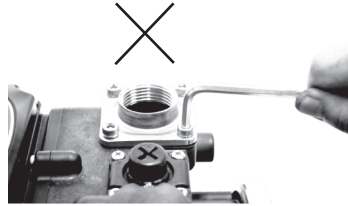

Fig. 1
1. The inlet and outlet flanges are tightened to the pump casing before shipment. For new pump installation, please do not remove the flanges. (See Fig 1) Because of the use of self tapping screws, please use extra care when you have to remove the flanges for future maintenance.